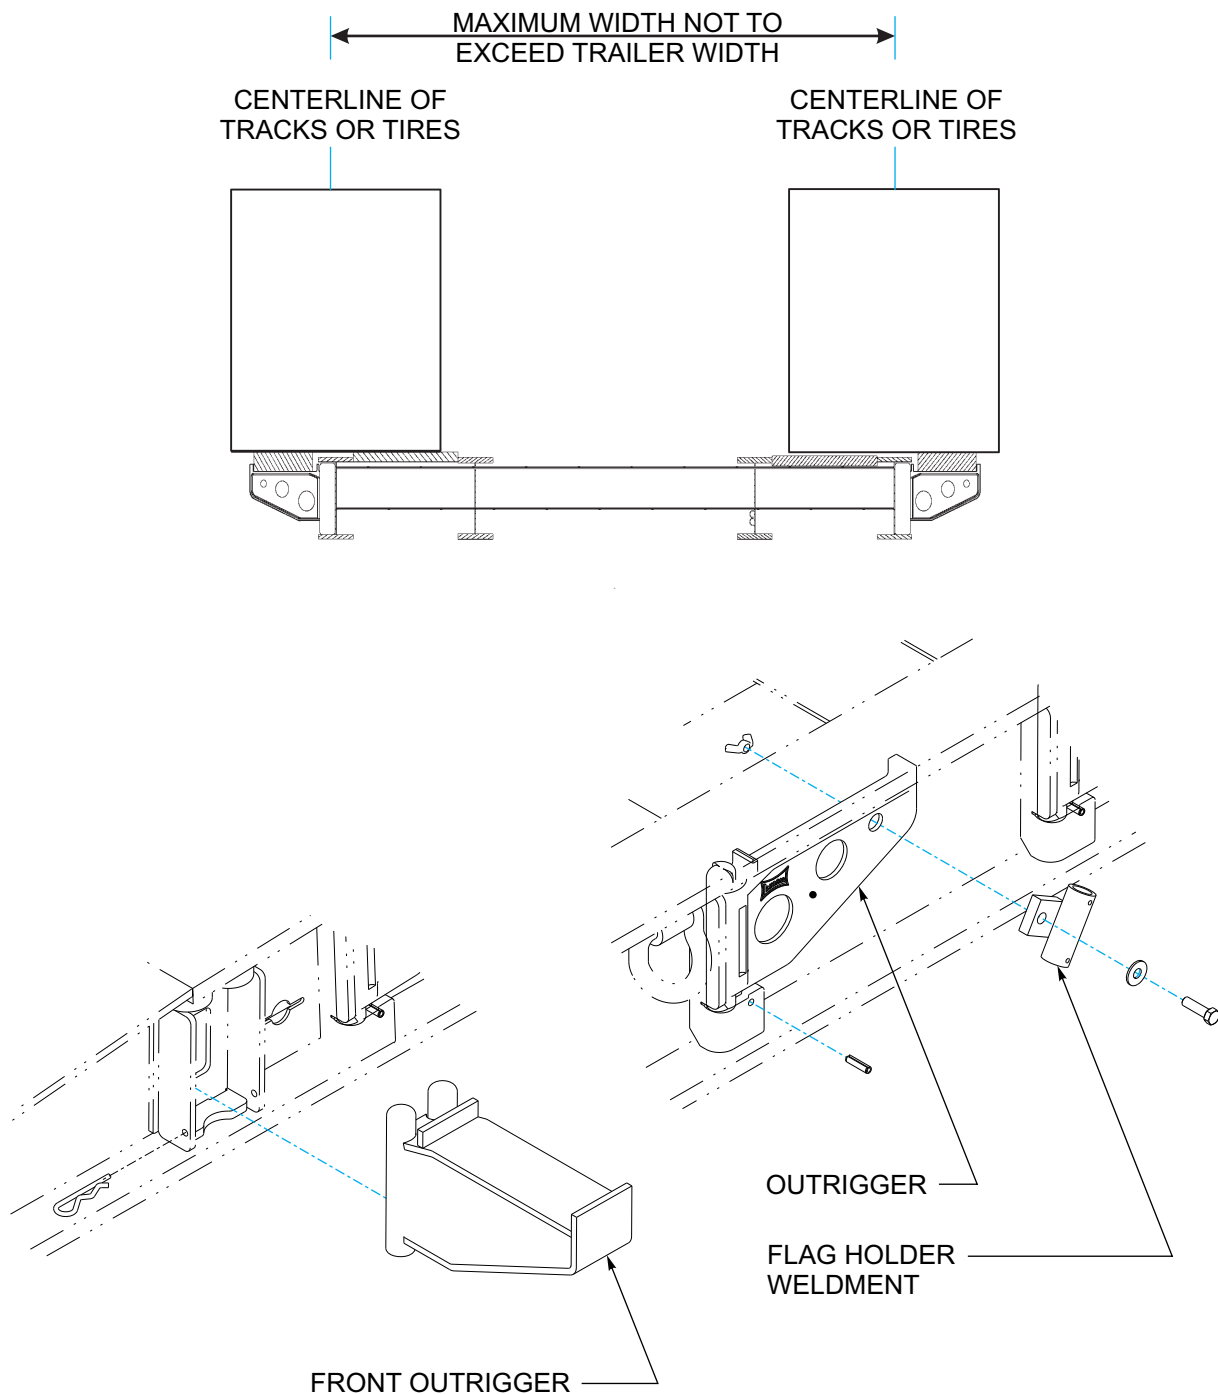

Figure 3-4: Swing Out Outrigger Platform Extension
2. Lift up and rotate swing-out outriggers outward (See **Figure 3-4.**)